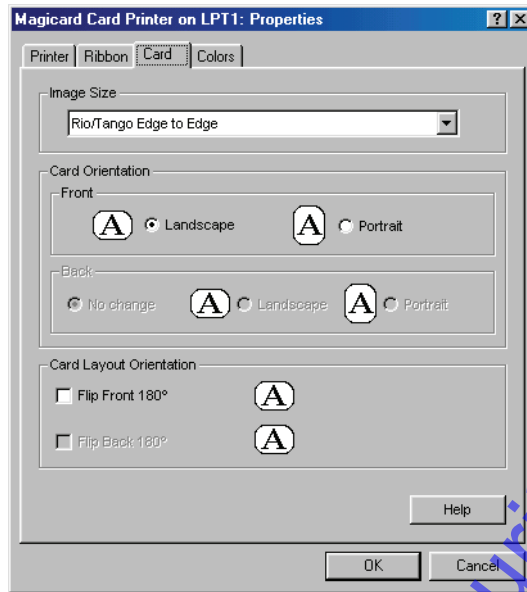

Figure 9-8: Printer Configuration Options – Card Tab
10. Click on the Card Tab and a window with card layout options appears (see Figure 9-8).
*NOTE: Your choice between Portrait or Landscape orientation **must** match what you select under printer setup (see Figure 9-8 on page 10 of this section).*